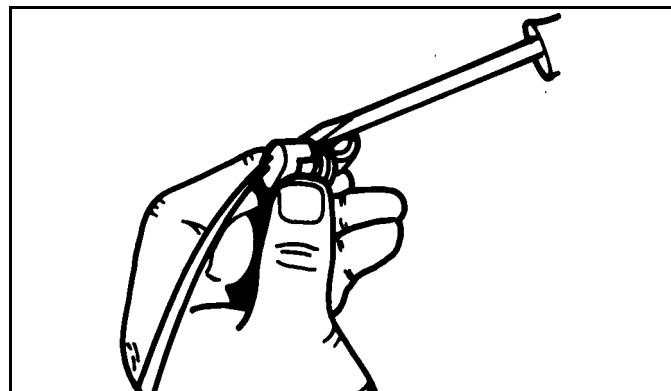

Figure 3-13
2. Remove retainer on wire end of connector with a screwdriver. (See Figure 3-13)